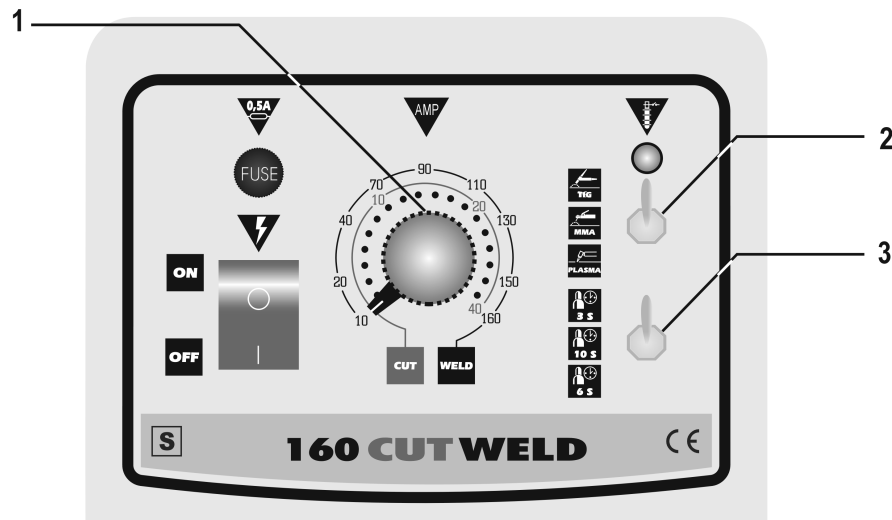

fig.5
- A – Select TIG welding process in selector TIG/MMA/PLASMA (2-fig.5).
- B – Adjust welding current to the desired value (10-160 Amp) with current adjustment knob (1-fig.5).
- C – Adjust post-gas time knob (3-fig.5) between positions 3, 10 or 6 sec. in order to cool torch at the end of welding operation.